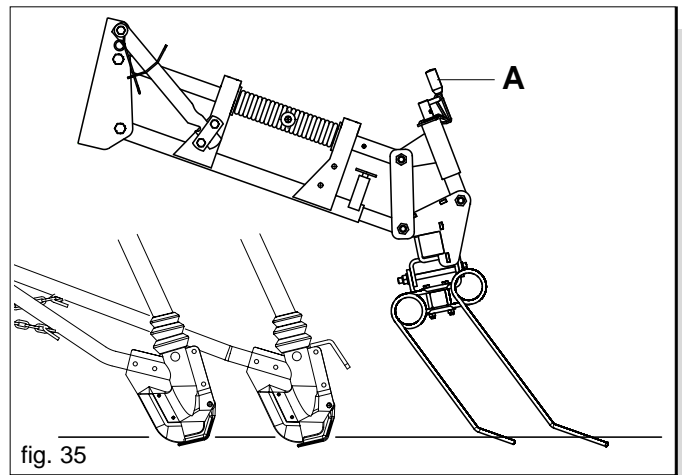

fig. 35
The normal working position of the harrow is shown in Figure 35. In this position, the wear on the teeth, between the long and the short one is even and uniform. By adjusting the regulating handle (A), it is possible to change the angle of the harrow.